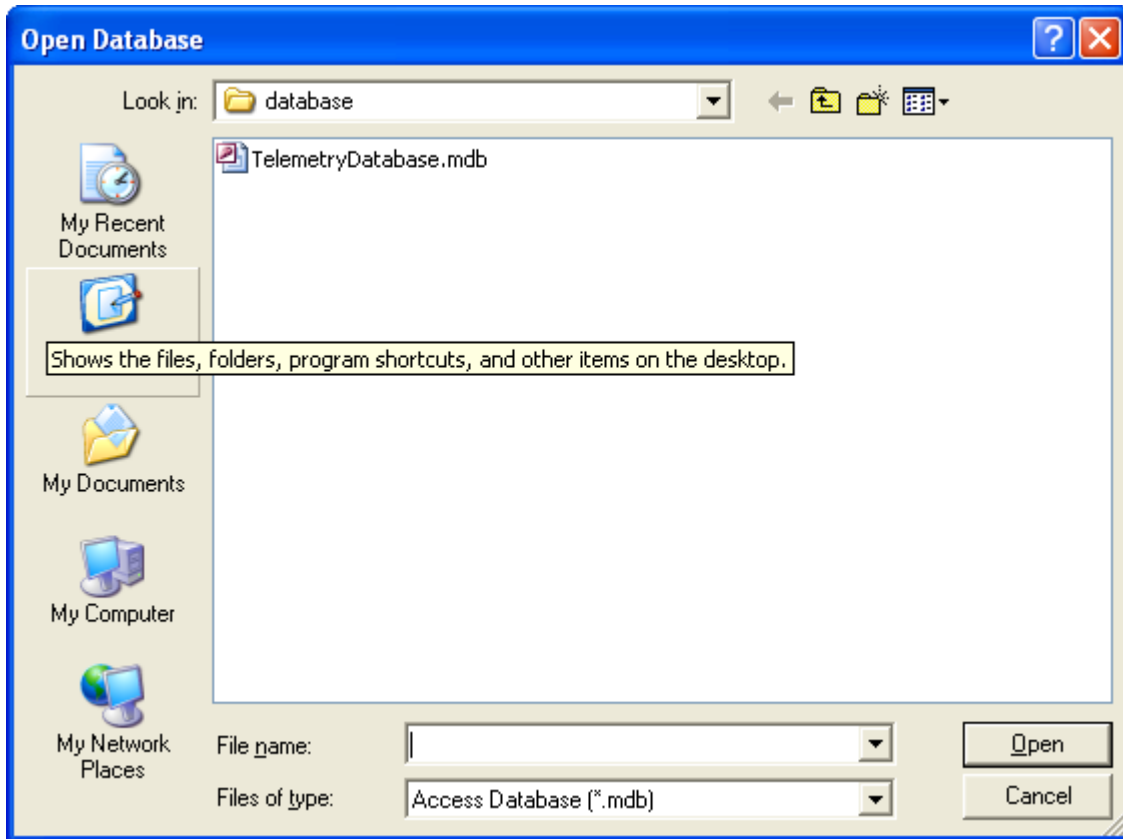

Figure 14 Open Database Dialog
1. Go to the **File** menu in the Telemetry Database application and choose **Open Database**. Use the "Open Database" dialog shown in Figure 14 to browse for the TelemetryDatabase.mdb database file. This dialog will default to the TReK directory that contains the TReK database files (so you really shouldn't have to browse for the database file).